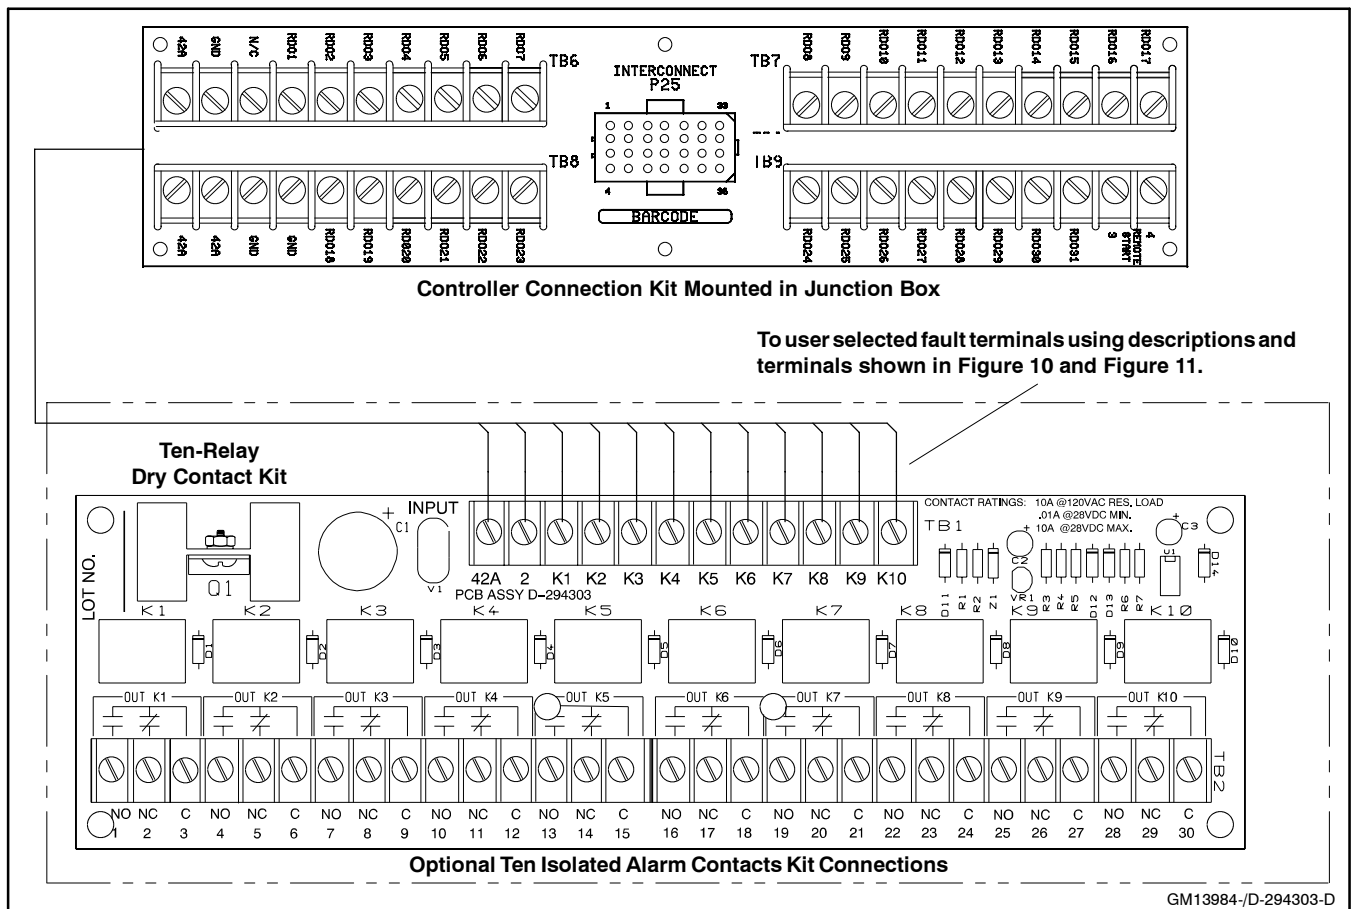
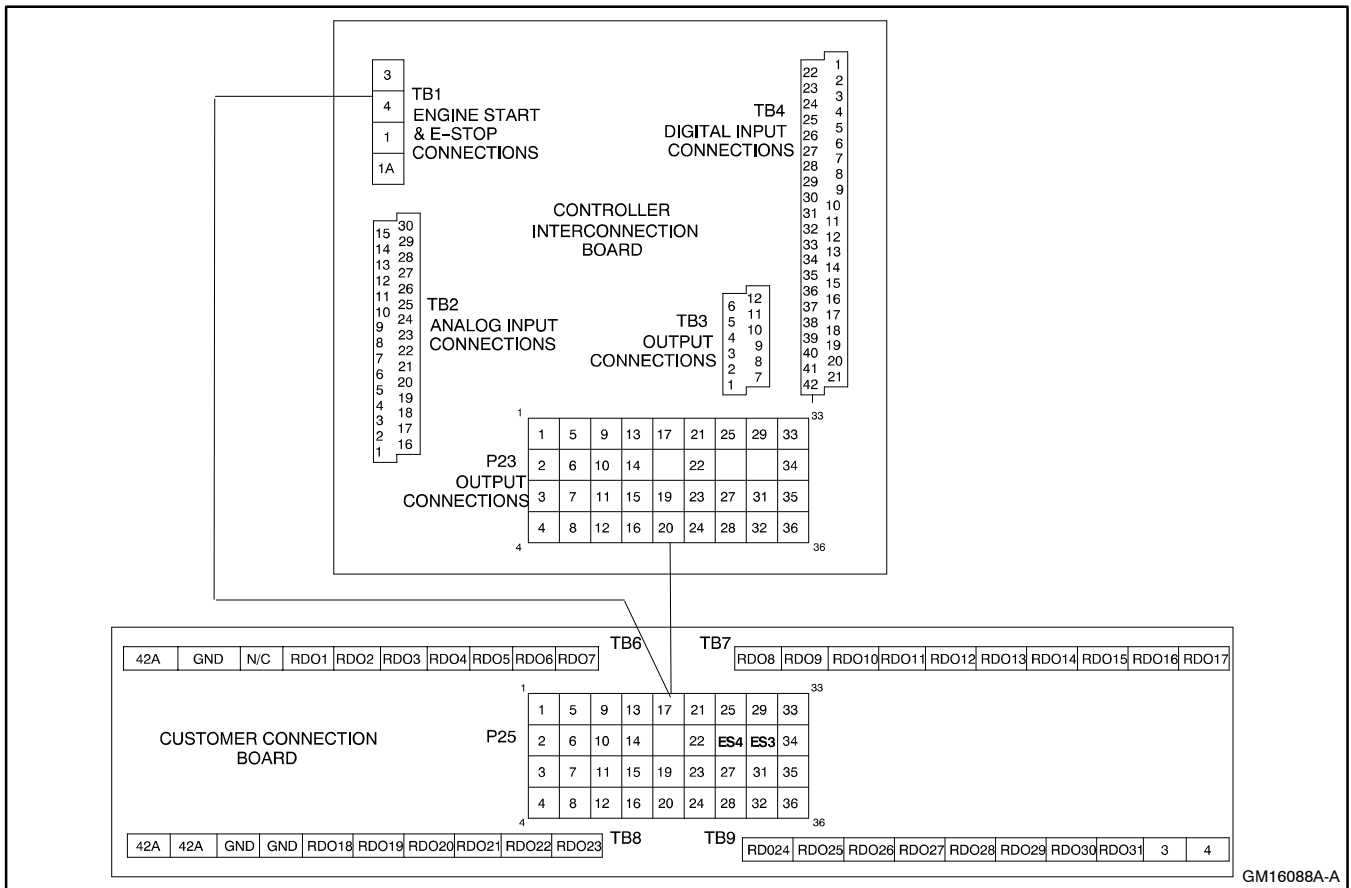

Figure 9 Ten-Relay Dry Contact Relay Kit Connections
Figure 10 Controller Connection Assembly
5.3.2 Connect the 12-lead dry contact relay wiring harness (GM16755) to the ten-relay dry contact kit relay input terminals. See Figure 9 for connection information.
5.4.2 Connect the 12-lead dry contact relay wiring harness (GM16756) to the ten-relay dry contact kit relay input terminals. See Figure 9 for connection information.
Connect the ten-relay dry contact wiring harness to the controller connection assembly in the junction box. See Figure 9. Leads 42A and N provide power to the relay. The user must select up to ten fault terminals for connecting the K1-K10 signal leads. See Figure 10 and Figure 11 for terminal connections.